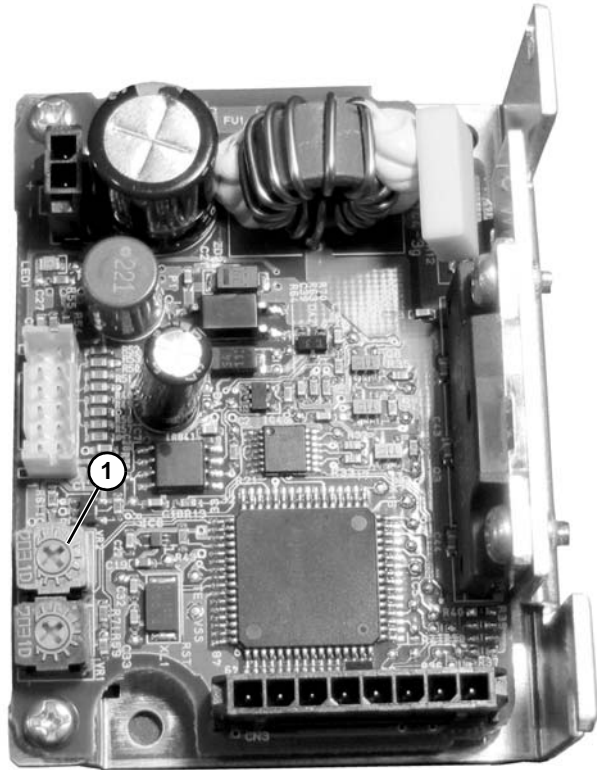

Figure 11
1. Adjust desired accel/decel at driver (**Figure 11, item 1**).